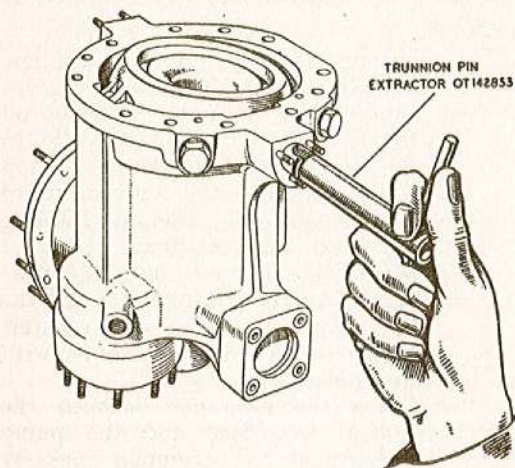

Fig. 5. Withdrawing the trunnion pin from pump housing
7. Insert the special extractor OT. 142853 into each tapped trunnion pin in turn (fig. 5), and withdraw each trunnion pin by pulling the extractor away from the pump housing.